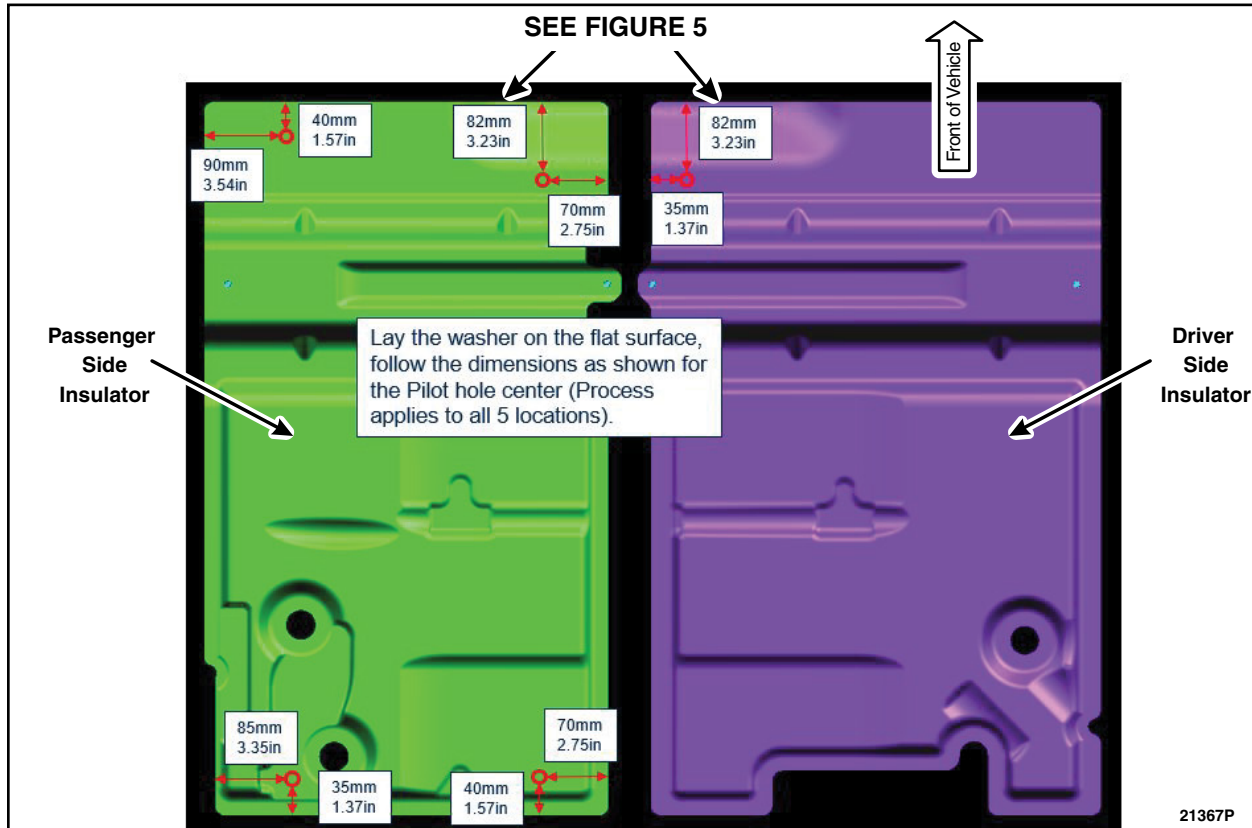

FIGURE 4
7. Measure and mark the four locations on the passenger side insulator and mark the one location on the driver side insulator. See Figures 4 and 5.